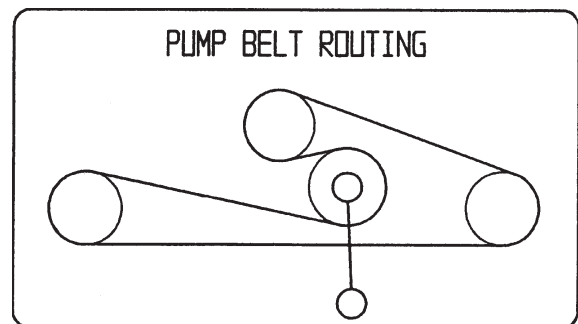

Figure 57
1. Pull the spring loaded idler down and remove traction belt from the engine and hydro pump pulleys (Fig. 57). Remove belt between pulleys.
2. Install new belt around engine and hydro pump pulleys (Fig. 57).
3. Pull spring loaded idler down and align below traction belt. Release pressure on spring loaded idler (Fig. 57).